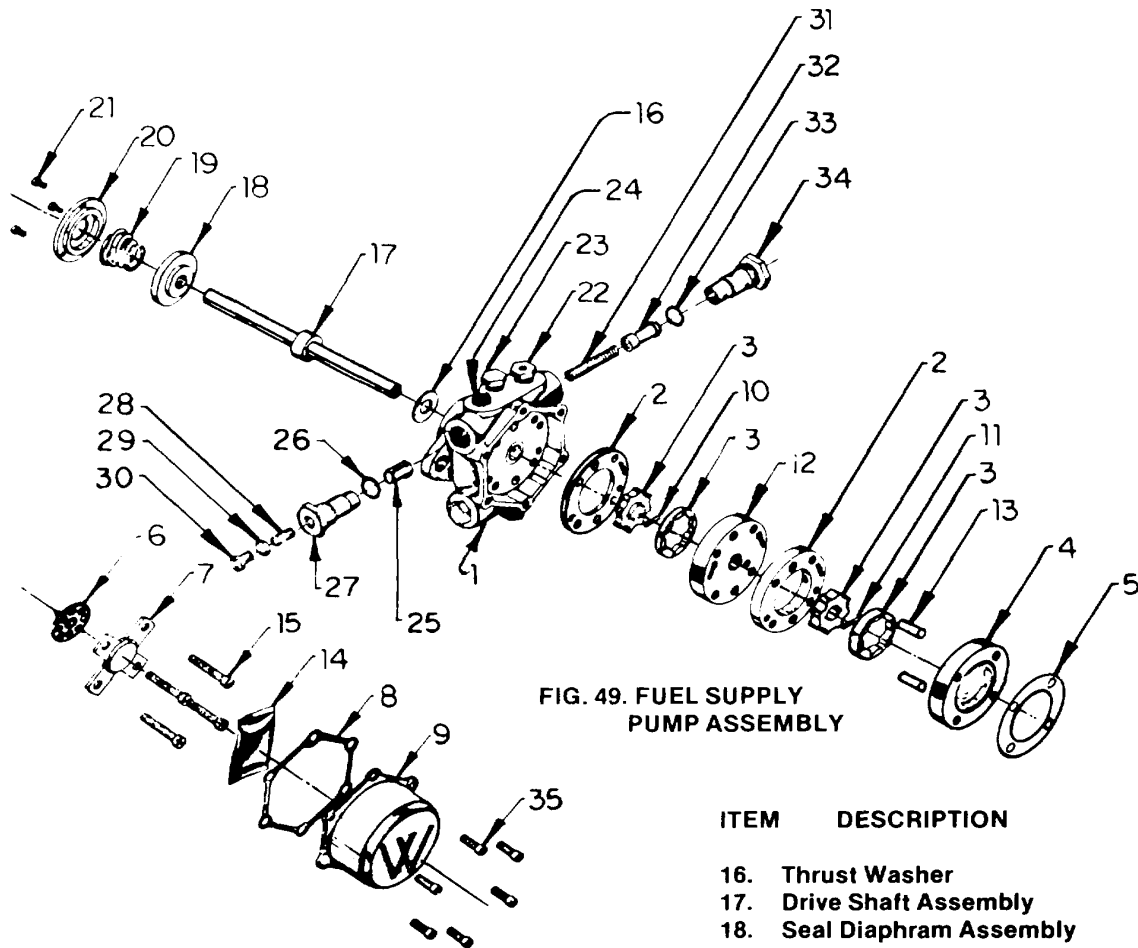

FIG. 49. FUEL SUPPLY PUMP ASSEMBLY
- c. Reassembly. Refer to Fig. 49 and reassemble the fuel pump.